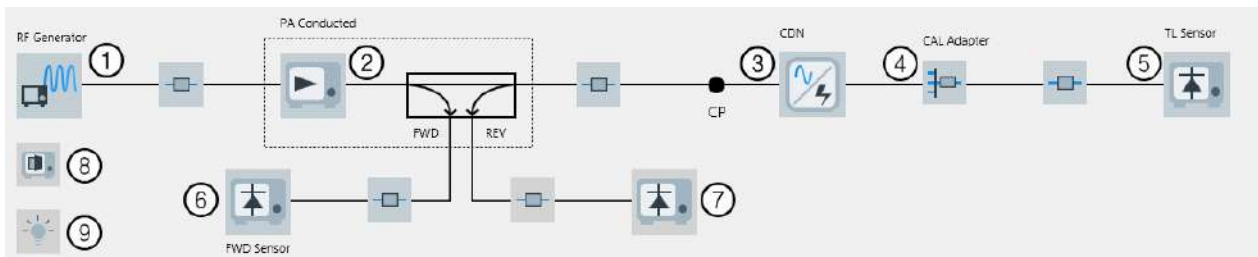

Figure 4-151: EMS hardware setup diagram for CDN/EM-Clamp (without Sensor) in Calibration View
- The "Calibration View", see Figure 4-151